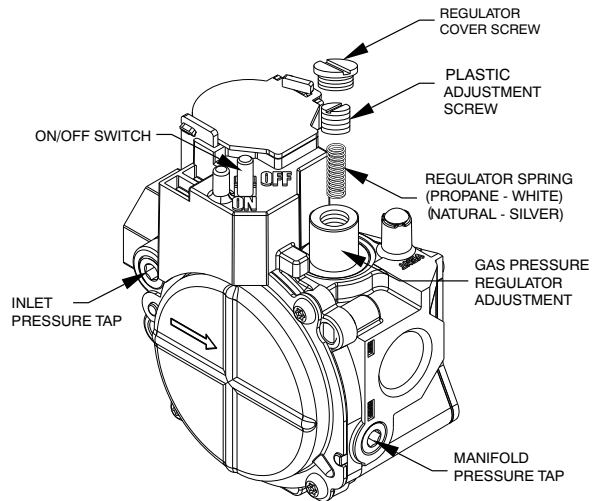

Fig. 13 – Single-Stage Gas Valve
1. Remove regulator cover screw over plastic adjustment screw on gas valve (See Fig. 13).
2. Turn plastic adjustment screw clockwise to increase gas input, or turn plastic adjustment screw counterclockwise to decrease input (See Fig. 13). Manifold pressure must be between 3.2 and 3.8 IN. WC.
3. Replace regulator cover screw on gas valve (See Fig. 13).